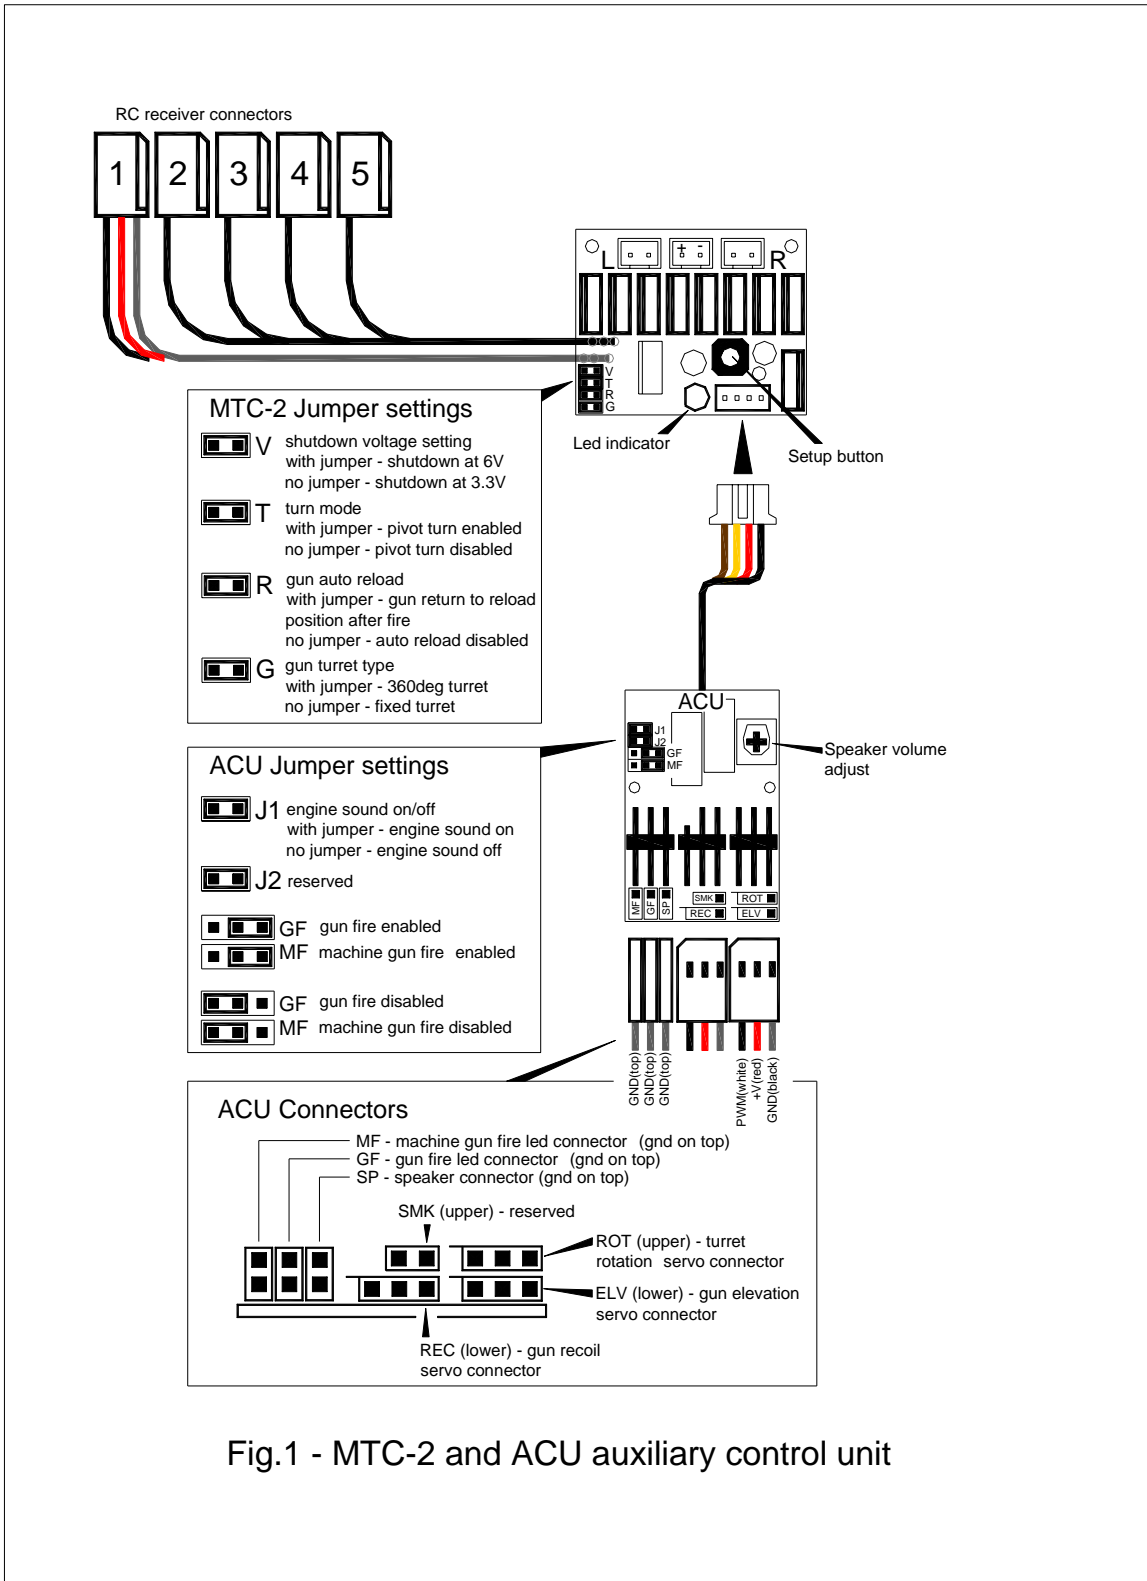

Fig.1 - MTC-2 and ACU auxiliary control unit
- 17) GF and MG jumpers – for enable/disable of gun fire and machine gun fire. See Fig.1 for jumper settings.
- Pivot turn is disabled when T-jumper is removed (Fig.1).
- Both sound effects can be disabled by jumper settings (Fig.1).